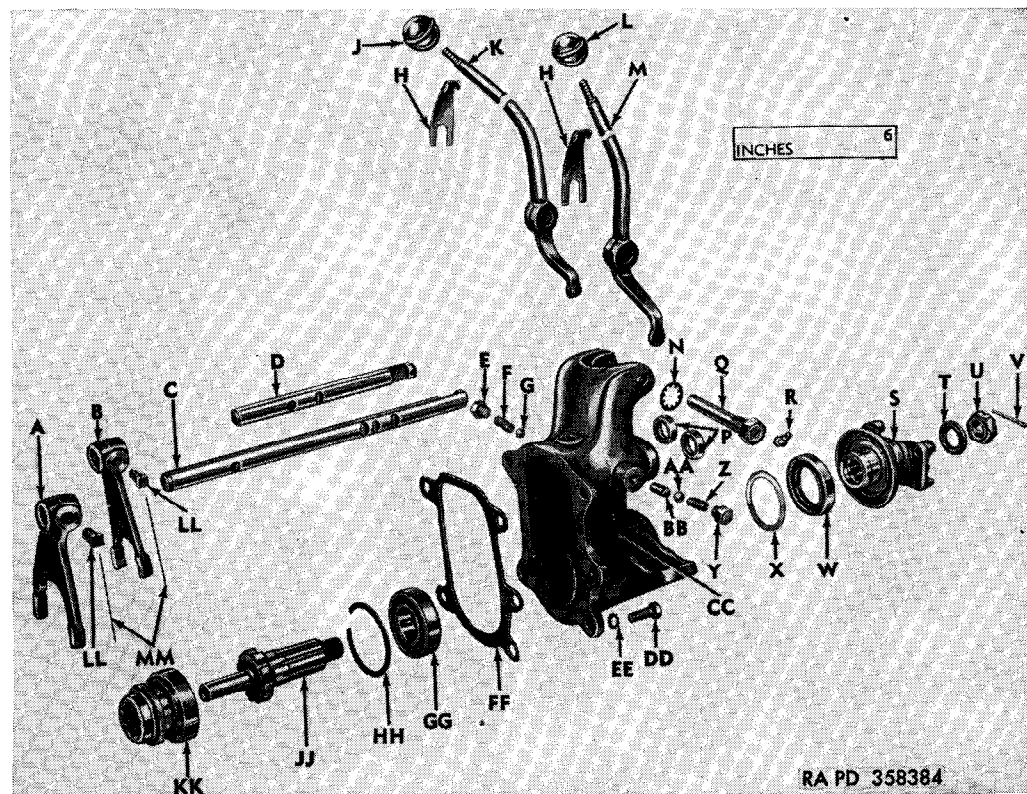

Figure 35. Output shaft front bearing cap assy—exploded view.
d. Remove Output Shaft Front Bearing Cap (fig. 35). Shift the front axle drive to the engaged position. Remove the shifter shaft poppet ball spring plugs (E and Y), shifter shaft poppet ball springs (F and Z), and shifter shaft poppet balls (G and AA) on both sides of the output shaft front bearing cap. Remove the five $\frac{3}{8}$ -16 NC-3 x 1 cap screws (DD) and $\frac{3}{8}$ -inch lock washers (EE) securing the output shaft front bearing cap to the transfer; remove output shaft front bearing cap (CC), output clutch gear shaft (JJ), output clutch gear (KK), output clutch gear shifter fork (B), output clutch gear fork shifter shaft (D), output clutch gear shaft bearing (GG), and the front propeller shaft to transfer yoke (S) as an assembly.